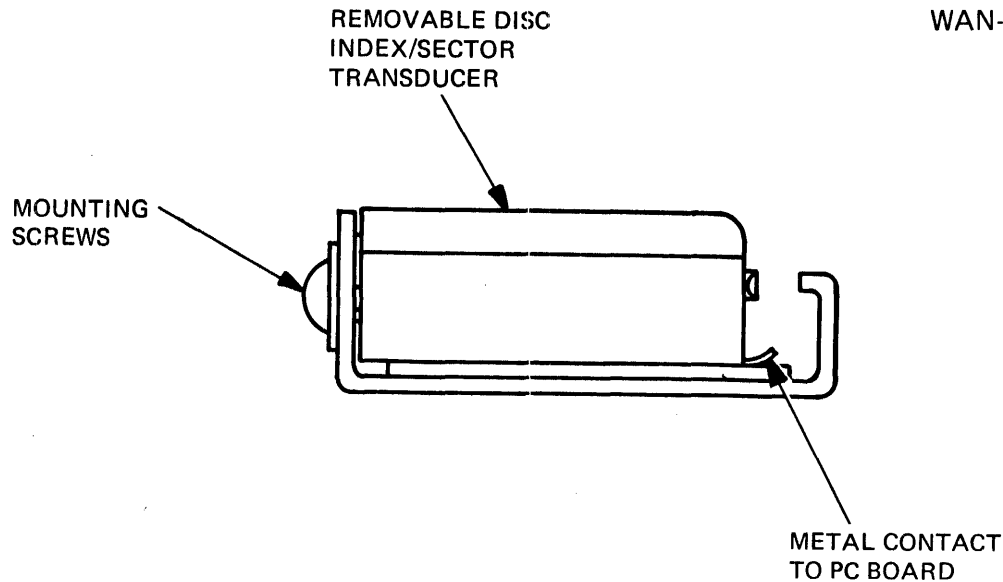

Figure 5-22. Index/Sector Transducer, Series F
5.4.3.12 Index/Sector Transducer, Series F. The index/sector transducer is a magnetic pickup device that is mounted on the top side of the fixed disc cover near the spindle hub as shown in Figure 5-22.